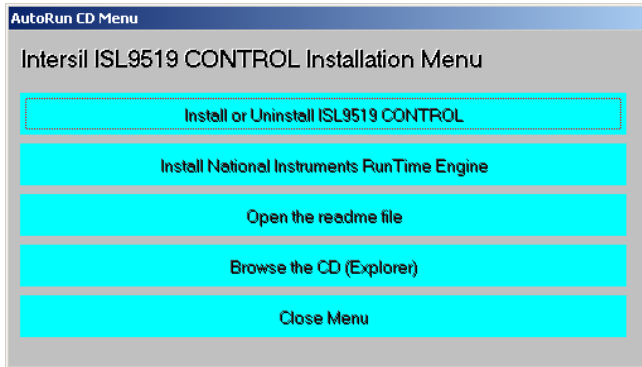

FIGURE 2. AUTORUN CD MENU
1. Download the ISL9519 CONTROL Software Installer.zip file from Tools and Support on the ISL9519C Device Information page. Extract it to a folder on your PC. Navigate to the folder and double-click the **AutoRun.exe** file. The **AutoRun CD Menu** window opens (Figure 2).
5. If the National Instruments Runtime Engine does not download automatically, then in the **AutoRun CD Menu** window (Figure 2), click **Install National Instruments Run Time Engine**. After installation, click **Close Menu**.